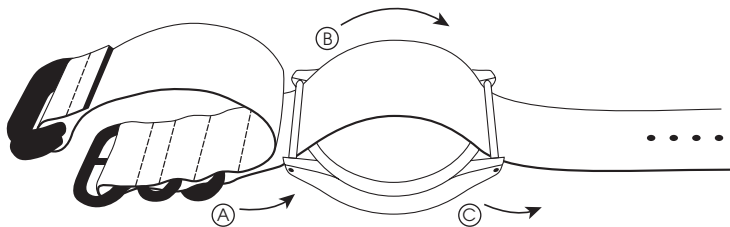

Fig. 1
2. Fold over the shorter side of the textile strap with the two metal loops pointing to the left. Then bring the longer side of the textile strap through the spring bars on the left and right, as illustrated in figure 1 (steps A to C).